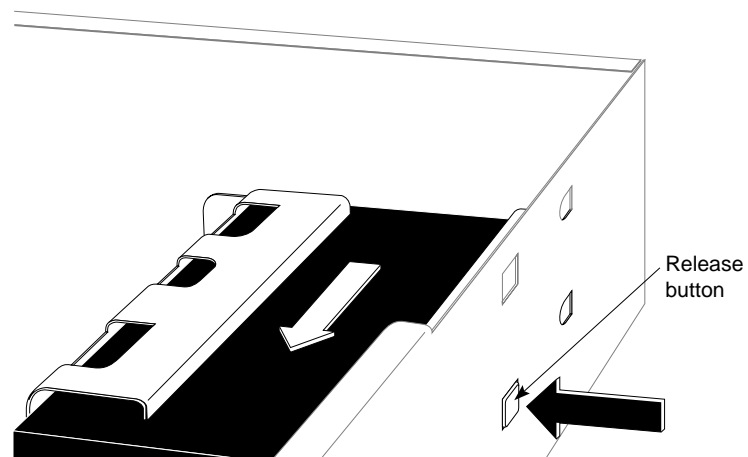

Figure 9-24 Removing the System Disk Drive
8. Remove the system drive and bracket from the lower drive slot by pressing the release button that protrudes through the hole on the side of the chassis and pulling the unit toward you, as shown in Figure 9-24.